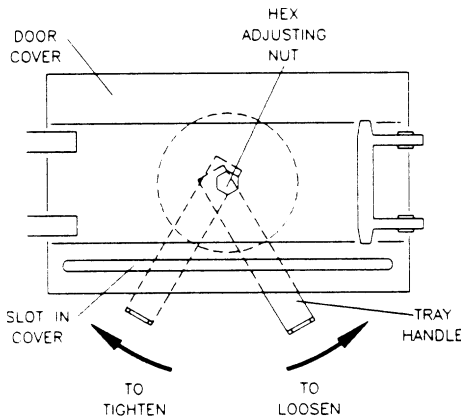

Figure 25: Door Adjustment
3. Hold the tray handle at the fork end so the fork points towards you. Insert the hex end of the tray handle through the slot in the bottom of the door cover (see Figure 25).